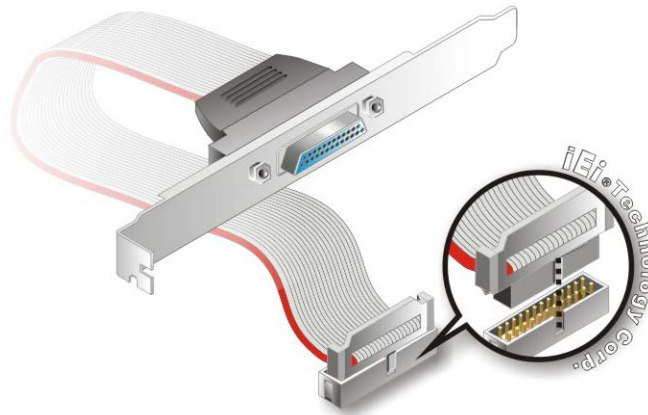

Figure 5-15: LPT Cable Connection
Step 2: Align the connectors. Correctly align pin 1 on the cable connector with pin 1 on the PCIE-9452 LPT box-header connector. See **Figure 5-15**.
Step 3: Insert the cable connectors Once the cable connector is properly aligned with the 26-pin box-header connector on the PCIE-9452, connect the cable connector to the onboard connector. See **Figure 5-15**.